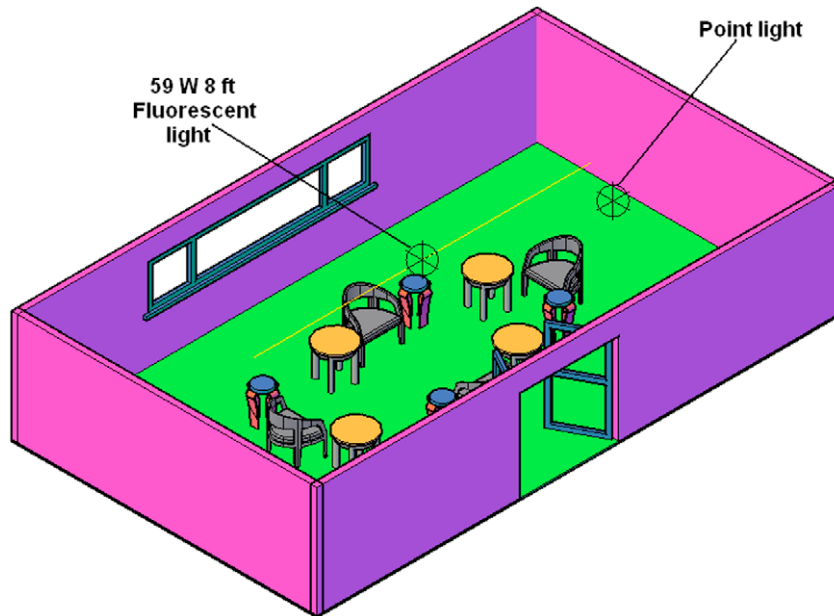

Fig. 15.43 Two lights placed in the room
2. Place a **Point** light in the bottom right-hand central corner of the room (Fig. 15.43).